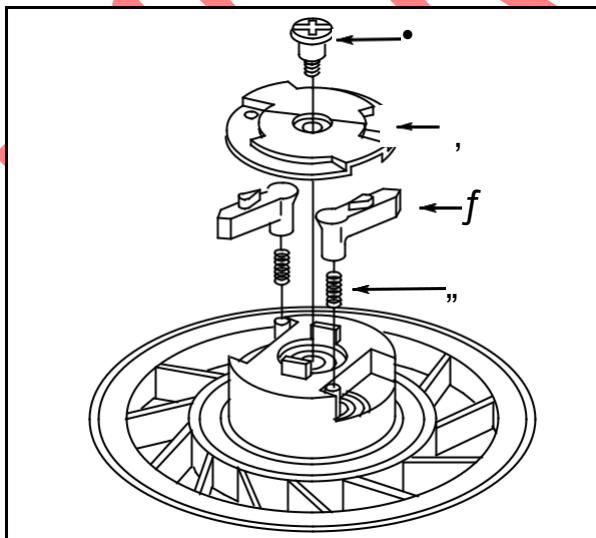

Fig. 56
Remove shoulder screw (1) and retainer (2), **Fig. 56**.